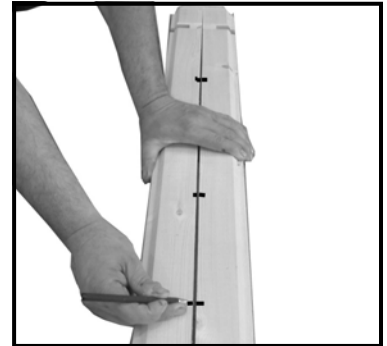

Fig D2
3. Place the 'A1' logs against each other and transfer all the lines across (fig D2).